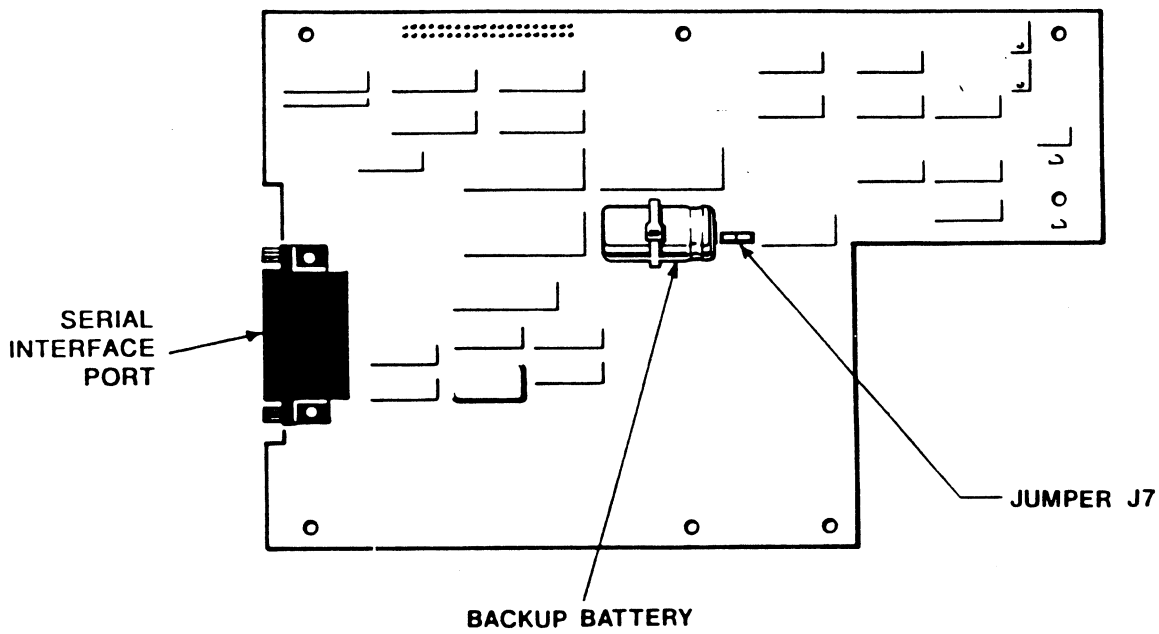

Figure 2-4 Battery Backup Activation
5. Locate jumper J7 on the Expansion Module (see Figure 2-4). This jumper is used to activate the support battery for the CMOS RAM and clock/calendar. The board is shipped with the battery disconnected in order to prevent battery drain. Install the jumper at J7. The battery backup is now activated.